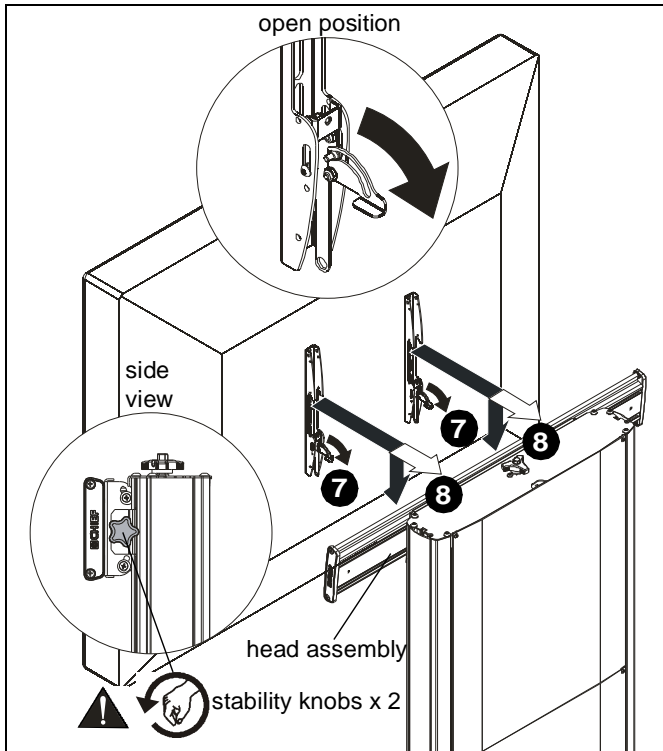

Figure 9
7. Position latches on interface uprights so that they are in the "open" position. (See Figure 9)
8. Hang interface uprights (B) on head assembly. (See Figure 9)